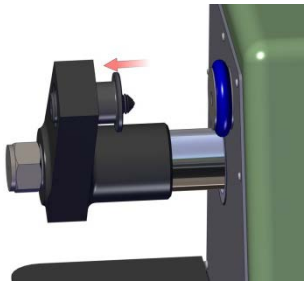
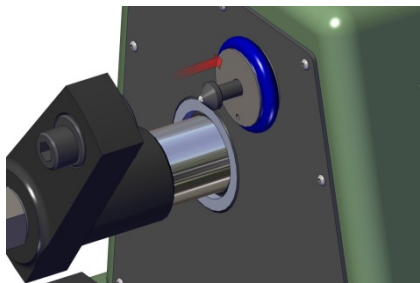
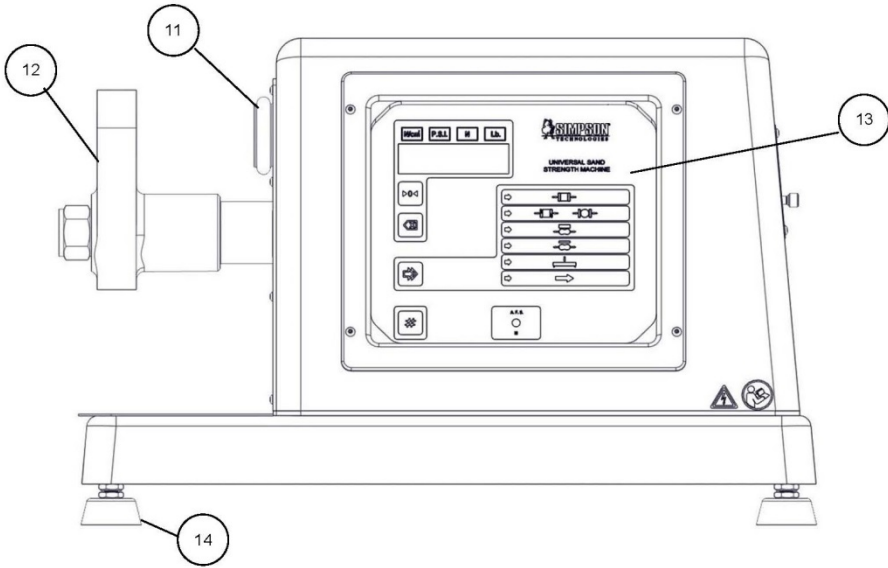

Figure 6.2.1
Figure 6.2.2
Figure 7.3: Front View
3. After approximately five seconds, a "HELLO" message appears in the digital display (Figures 7.3 & 7.4, Item 13B). If any button is pressed four times while the "HELLO" message is displayed, the strength machine will be set in calibration mode.
4. When the "HELLO" message is finished and if the calibration mode was chosen, three messages will appear successively on the digital display: "SET-UP", "CALib" and "rESET." The desired mode is selected by pressing the "Start" button (Figures 7.3 & 7.4, Item13F) at the moment the message appears on the display.
5. Select the calibration mode by following the directions outlined in steps 2 thru 5 and pressing the "Start" button (Figures 7.3 & 7.4, Item 13F) when the "CALib" message appears on the digital display (Figures 7.3 & 7.4, Item13B).
6. The "HELLO" message will appear again on the digital display and the Strengths & Forces "N/cm²" indicating light (Figures 7.3 & 7.4, Item 13A) will start blinking. At this time press the "Start" button. The "HELLO" message will display again followed by the number "0" indicating that the machine is zeroed. The "N" (newtons) indicating light (Figures 7.3 & 7.4, Item13A) will begin to blink.
8. Replace the attachments with the adjustable support ball and fixed support ball that are included with the Mechanical Load Cell, Model 42125. The adjustable support is inserted onto the movable clamp arm (Figure 7.3, Item 12) by gently sliding into the mating hole (see Figure 6.2.1). It is extremely important that the calibration and conic supports are clean and free of loose sand. Insert the fixed support ball into the hole located in the center of the stationary clamp holder (Figure 7.3, Item 11). (See Figure 6.2.2 and 6.2.3).
11. Mount the load cell between the stationary clamp holder (Figure 7.3, Item 11) and the movable clamp arm (Figure 7.3, Item 12). (See Figure 6.2.4)
14. After reaching the correct .01 mm deflection on the mechanical load cell, then visually verify that the digital display (Figures 7.3 & 7.4, Item 13B) is showing the correct load in newtons. If the value is not correct, the display can be adjusted per step 15; otherwise, proceed to step 16.
- » Rapid increase - Press the "Zero" button (Figures 7.3 & 7.4, Item 13C)
- » Rapid decrease - Press the "Test Selection" button (Figures 7.3 & 7.4, Item 13E)
- » Slow increase - Press the "Clear Display" button (Figures 7.3 & 7.4, Item 13D)
2. All digits in the digital display (Figures 7.3 & 7.4, Item 13B) and test indicator lights will illuminate on and off one time.
4. When the "HELLO" message is finished and if the calibration mode was chosen, three messages will appear successively on the digital display: "SET-UP," "CALib" and "rESET." The desired mode is selected by pressing the "Start" button (Figures 7.3 & 7.4, Item13F) at the moment the message appears on the display.
5. The "SET-UP" function sets the content of the strength machine's registers. To select "SET-UP" press the "Start" button (Figures 7.3 & 7.4, Item 13F) while the "SET-UP" message appears on the digital display. After pressing, the display will show the "HELLO" message followed successively by pairs of numbers: the first digit from the left in the digital display represents the register number and the last digit of the display tells the content of the respective register. The content values should match the following table: